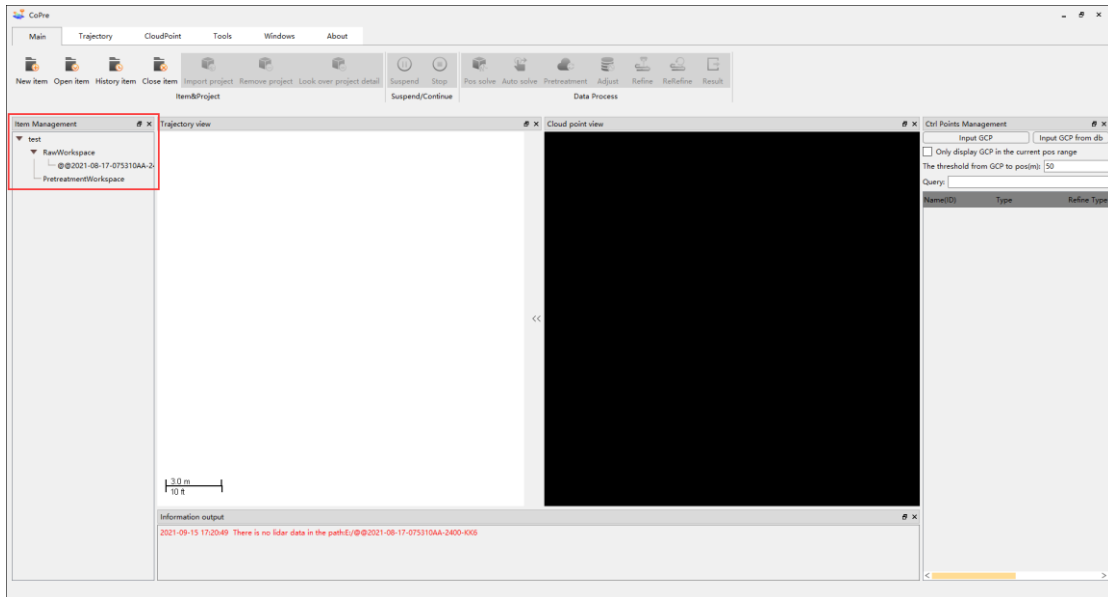

Figure 14
- The Item Management bar now shows the item name, as shown in figure 14